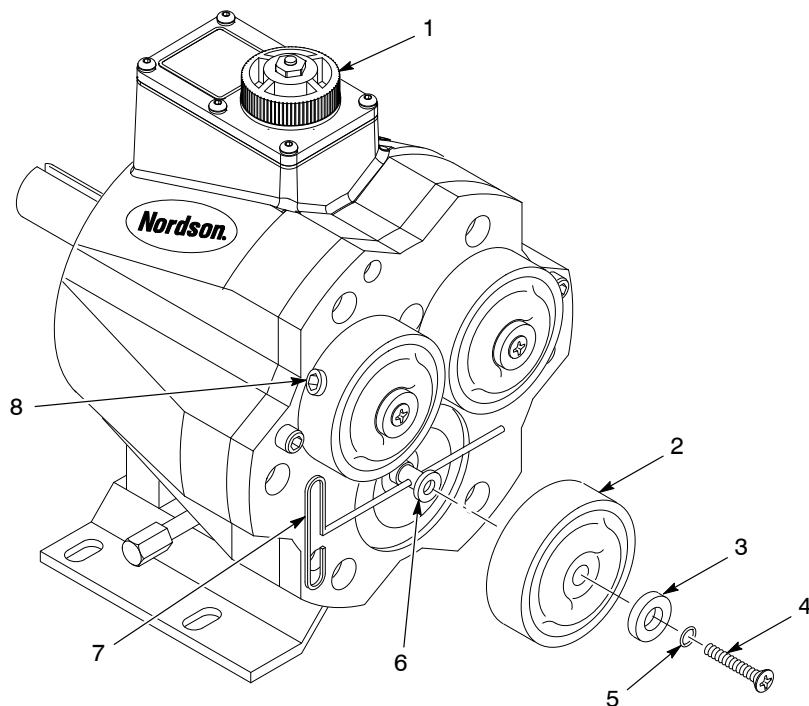

Figure 6 Diaphragm Cartridge Installation
- b. Pull on the diaphragm cartridge screw (11) until you expose a drilled cross hole in the plunger shaft. Insert a wrench into the cross hole. See Figure 6 for cross hole and wrench location.
- c. Remove the diaphragm cartridge screw, O-ring (12), follower (13), and diaphragm cartridge (14) from the plunger shaft.
- d. See Figure 6. Install the O-ring (5) and follower (3) on the screw (4). Apply adhesive (included in diaphragm kit) to the end portion of the screw.
- e. Insert the diaphragm cartridge screw (4) through the diaphragm cartridge assembly (2).
- f. Install the diaphragm cartridge assembly on the plunger shaft (6). Position the diaphragm cartridge with the plug (8) facing outward. Tighten the screw.
- g. Remove the wrench (7).